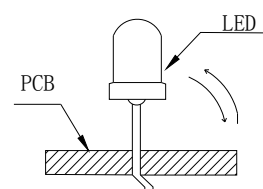

Fig. 8
6. Do not bend the leads more than twice.(Fig. 8)